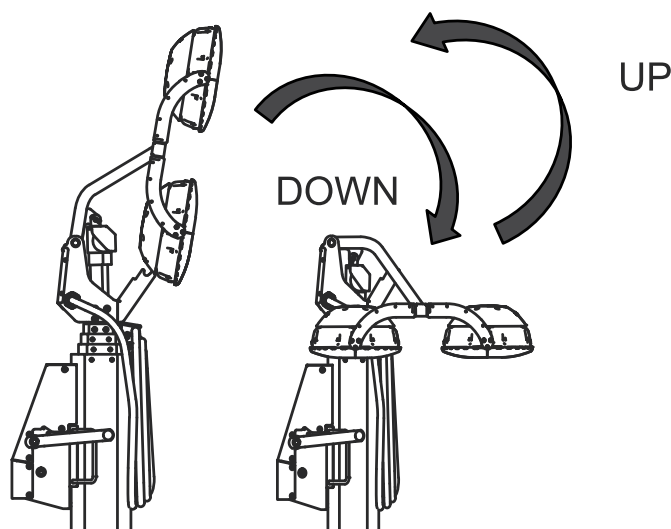

Figure 12. Raising and Lowering Lampstand
2. The lampstand will begin to rise (Figure 12). When the lampstand is in the desired position, release the actuator switch. The actuator switch will return to the center position automatically and lampstand will stop rising.